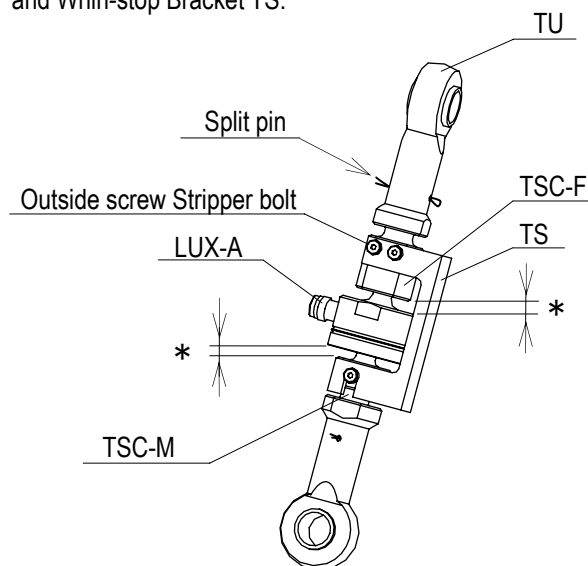

Fig.4-2 Combination with Ball Joint TU
- 1) Refer to Figure 4-2 in combination with Ball Joint TU, Whirl-stop Coupling TSC and Whirl-stop Bracket TS.